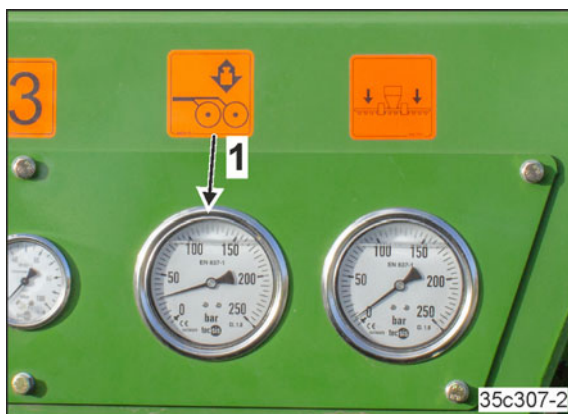

Fig. 184
3. The pressure gauge (Fig. 184/1) indicates if the coulters are pressurised with increased pressure.